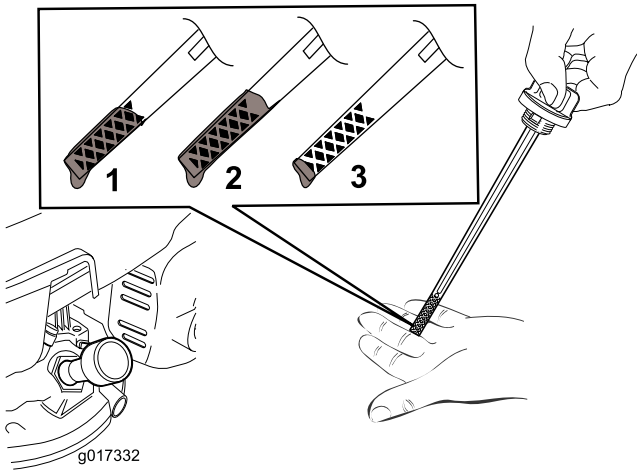

Figure 12
- If the oil level on the dipstick is too low (Figure 12), carefully pour a small amount of multigrade mineral SAE 10W-30 oil with an API series classification of SJ or higher into the oil-fill tube, wait 3 minutes, and repeat steps 3 through 5 until the oil on the dipstick is at the correct level.
- If the oil level on the dipstick is too high (Figure 12), drain the excess oil until the oil on the dipstick is at the correct level; refer to Changing the Engine Oil \(page 17\).
2. Remove the dipstick by rotating the cap counterclockwise and pulling it out (Figure 12).
5. Read the oil level on the dipstick (Figure 12).